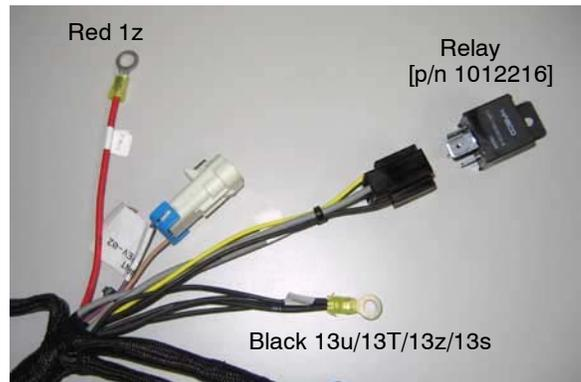

Fig. 4
2. Starting from inside the circuit breaker box, connect the following ec-H2O harness wires as described in steps 3, 4 and 5 (Figure 4).
4. Using Nut [p/n 09739], attach Relay [p/n 1012216] to the mounting stud located inside the circuit breaker box (Figure 6). Connect *ec-H2O* harness wire to relay (See Figure 4 for relay reference).